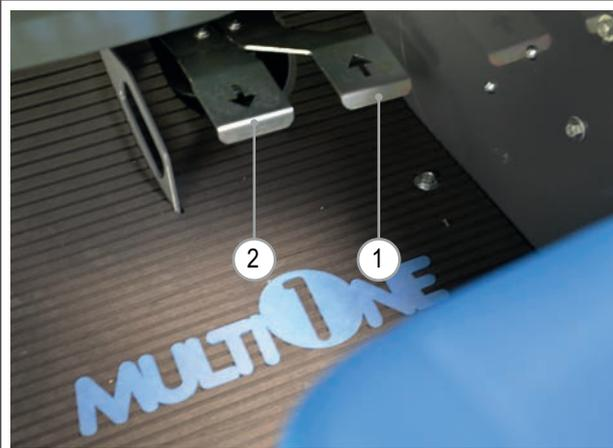

FIG. 27
- 4) Press the pedal relative to the direction of “Forward” (FIG. 27 - Ref. 1) or “Reverse” (FIG. 27 - Ref. 2).